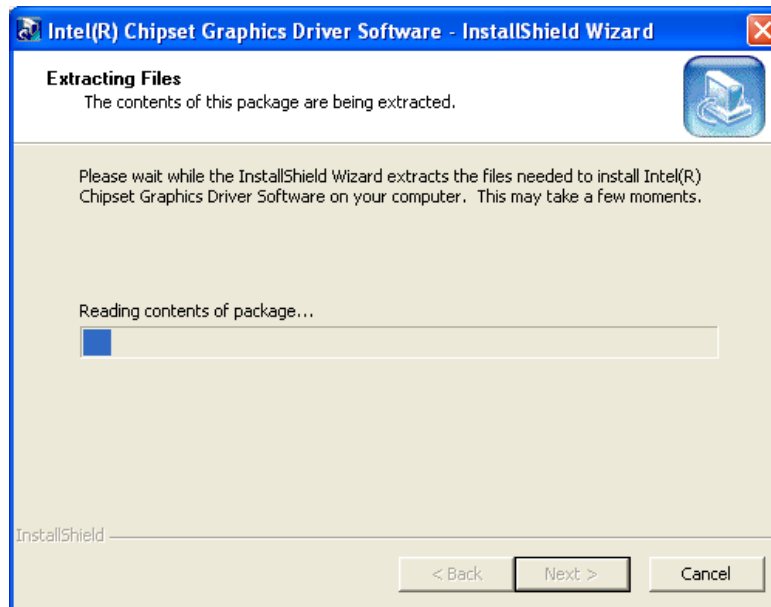

Figure 7-8: Graphics Driver Setup Files Extracted
Step 6: The installation files are extracted. See **Figure 7-8**.